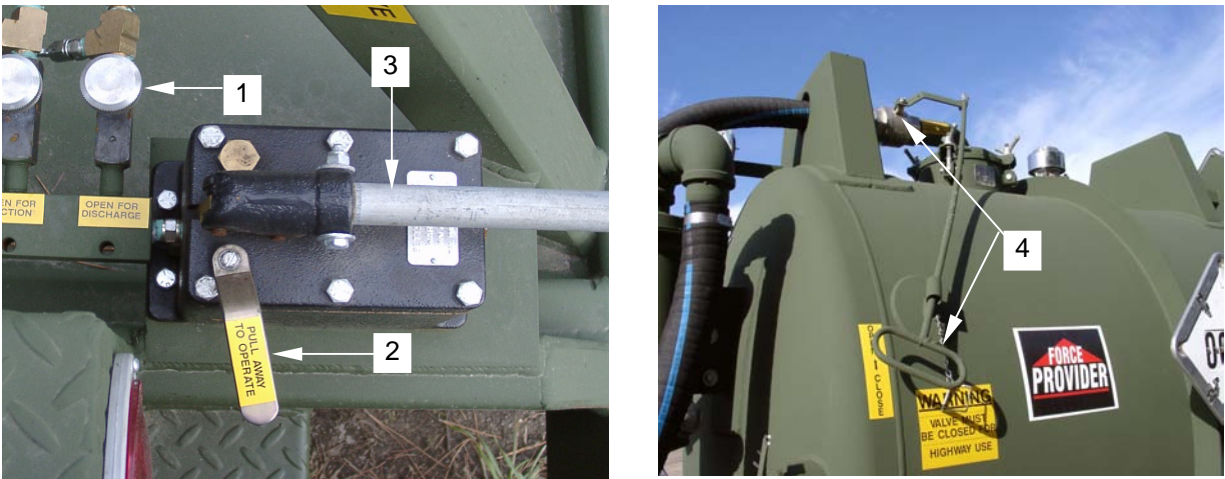

Figure 34. Hydraulic Valve Controls and Isolation Valve
- a. Open the drain valve (DISCHARGE) hydraulic control knob (**figure 34, item 1**).
- b. Place hydraulic pump selector lever (**figure 34, item 2**) so it is pointing away from the pump handle (**figure 34, item 3**).
- c. Operate hydraulic hand pump (**figure 34, item 3**) until drain valve fully opens.
- d. Open the isolation valve (**figure 34, item 4**).